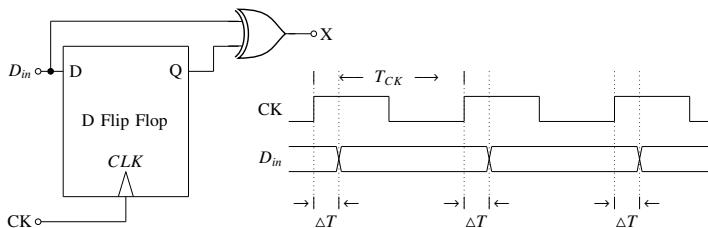

Fig. 5.22
22. In the circuit shown below, a positive edge-triggered D Flip-Flop is used for sampling input data D_{in} using clock CK . The XOR gate outputs 3.3 volts for logic HIGH and 0 volts for logic LOW levels. The data bit and clock periods are equal and the value of $\Delta T/T_{CK} = 0.15$, where the parameters ΔT and T_{CK} are shown in Fig. 5.22. Assume